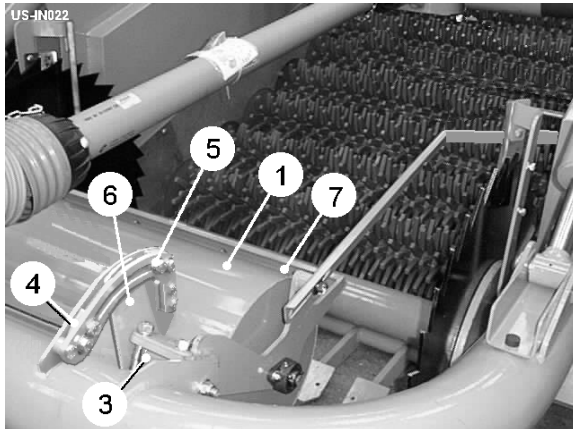
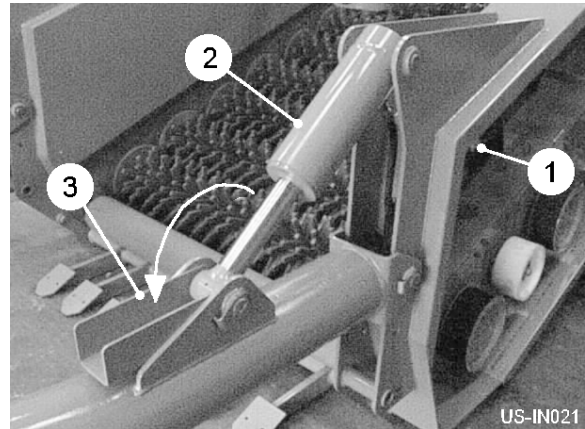

Fig 6
Fig 7
The machine is fitted with an automatic depth control system which ensures an even depth of soil in the finished bed. The depth roller (item 1, fig 6) runs on top of the preformed bed following the contours. The depth roller is linked to a depth sensor (item 1, fig 7) and via the hydraulic valve bank actuates the depth rams (item 2, fig 7). A depth indicator is fitted to the RH depth ram giving the operator a visual indication of the action of the sensing system. The ram stop brackets (item 3, fig 7) must be set in the position shown before commencing work.
The depth roller frame pivots on rubber torsion mountings (item 3, fig 6). By adjusting these mountings it is possible to adjust the amount of pressure the roller exerts on the soil. The pressure setting needs to be made with the machine in work so that the relative working position of the roller and shares is correct.
1. Release the front and rear quadrant stops (item 4 & 5, fig 6) on both sides of the roller unit.
3. Slide the front stops (item 4, fig 6) up against front edge of the quadrant arms (item 6, fig 6) and lightly secure.
4. Raise the machine slightly, causing the quadrant arms (item 6, fig 6) to rotate backwards away from the front stops (item 4, fig 6), and then reposition the front stops up against the quadrant arms and secure fully. The higher the machine is raised prior to repositioning the front stops, the greater spring pressure will be.
5. Lower the machine back into work and set the rear stops (item 5, fig 6) approximately 15mm away from the rear of the quadrant arms (item 6, fig 6). This gap allows the depth roller to drop slightly, maintaining digging depth, when the tractor rides out of the bed onto the headland.
The scrapers (item 7, fig 6) should be set as close to the roller as possible without fouling it.
Before transporting the machine on the road, reset the ram stop brackets (item 3, fig 7).